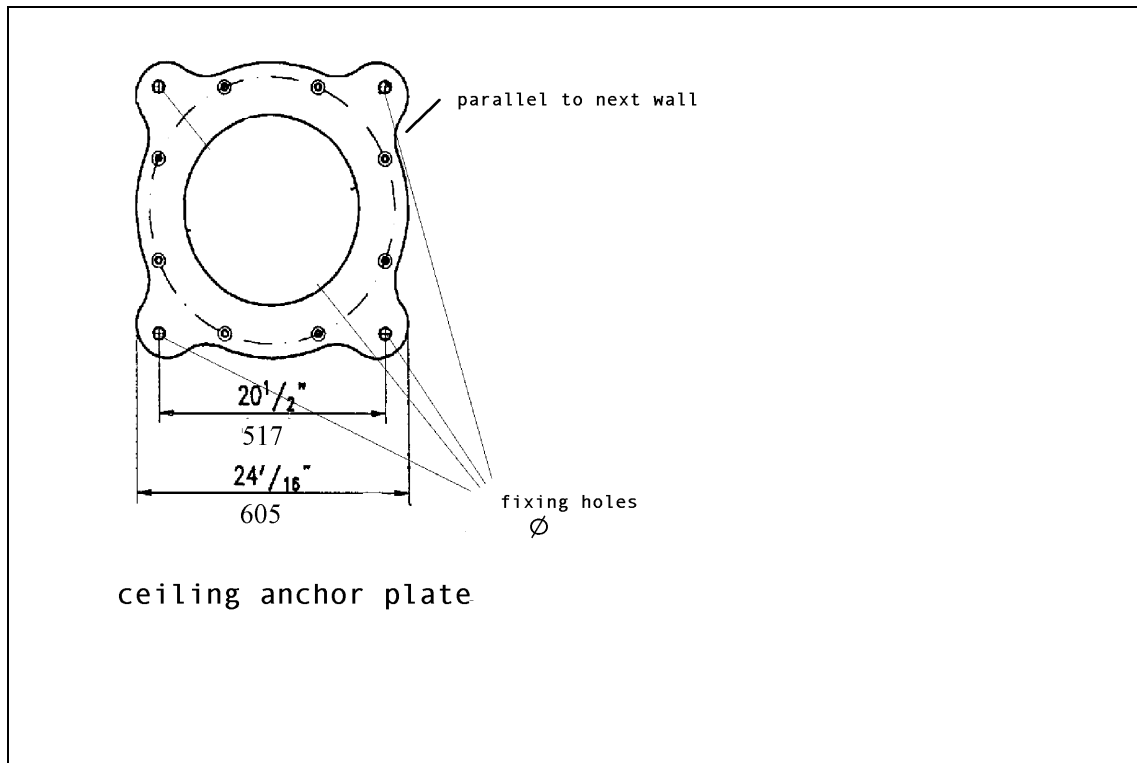

Fig. 1 Ceiling anchor plate
- Mark the drill holes for the anchor plate according to the room planning diagram. One side of the plate should be aligned parallel to the closest wall Fig. 1.